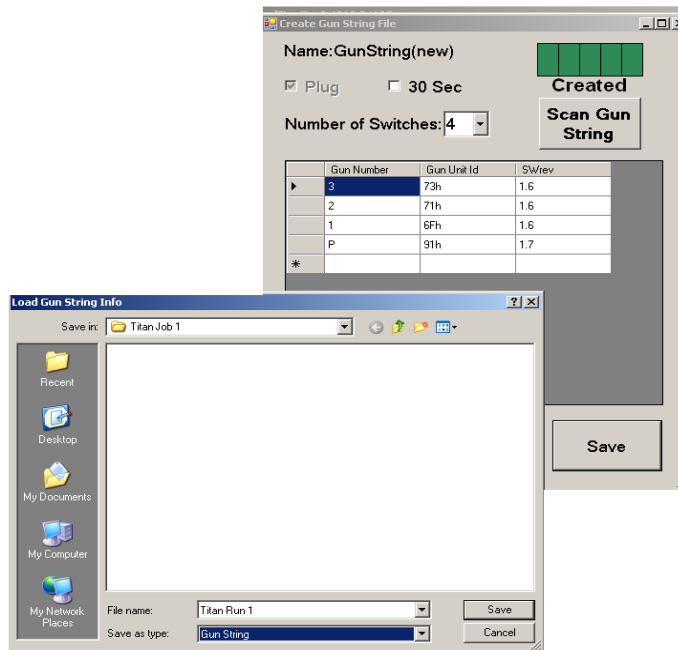

Figure 19
6. Select the **Scan Gun String** button, this action will power the wireline and send a sequence of commands from the Perforating Command and Control Panel to the Perf Switches and confirm a functional string. See Figure 19.